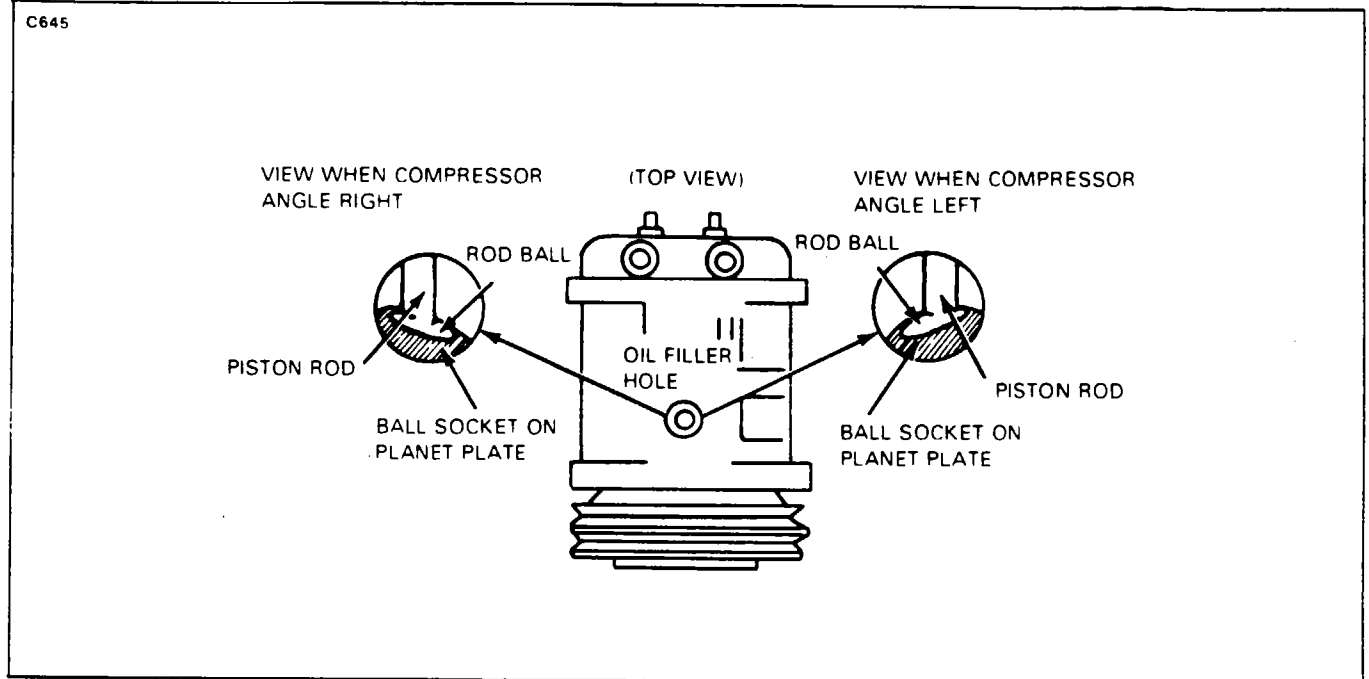

Figure 21-36a. Positioning Sankyo Compressor Internal Parts
5. Look through the oil filler plug hole and rotate the clutch front plate to position the internal parts as shown in Figure 21-36a.
- A. If the compressor is mounted to the right (facing the pulley and clutch) (refer to Figure 21-36a), center the parts as they are moving to the rear of the compressor (discharge stroke).
- B. If the compressor is mounted to the left (facing the pulley and clutch) (refer to Figure 21-36a), center the parts as they are moving to the front of the compressor (suction stroke).